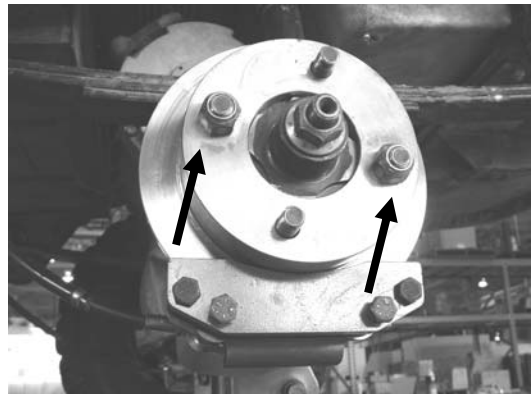

Fig R2 – Install 2 lug nuts.
2. Remove the wheels. Re-install two lug nuts to hold rotor in place. (See Fig R2)